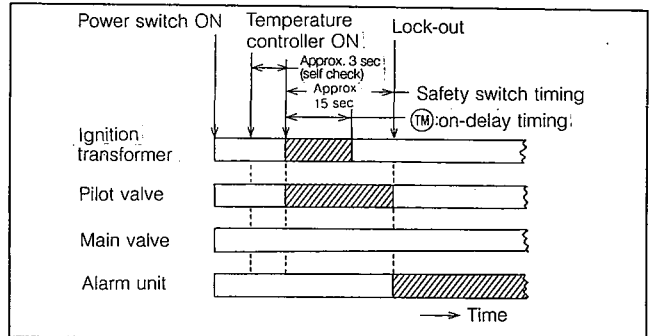

Fig. 12 Ignition Failure
#### (2) Ignition Failure (Refer to Fig. 12)